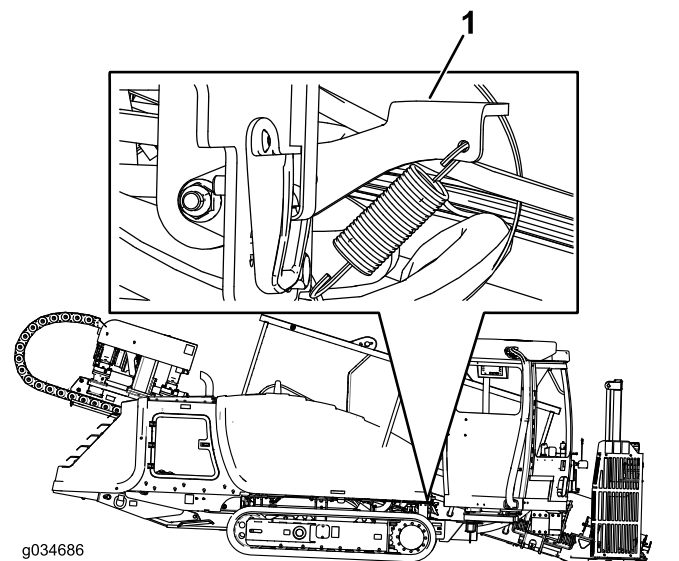
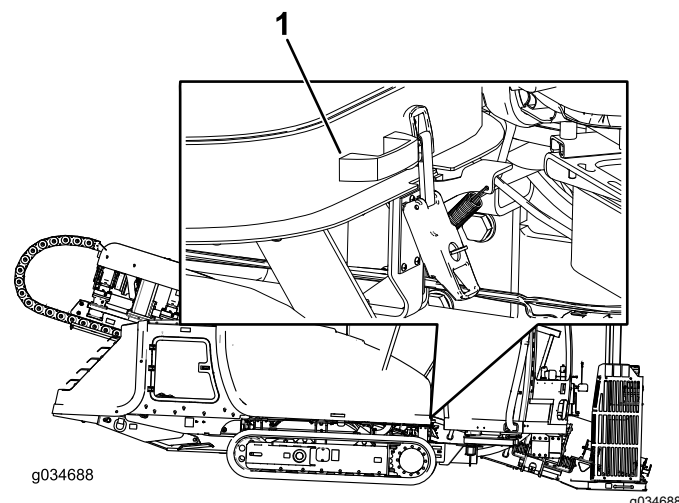

Figure 70
Figure 71
4. Keep the hood latch (Figure 70) pulled up, and lift up on the handle as shown in Figure 71.
3. Pull up on the hood latch as shown in Figure 70.